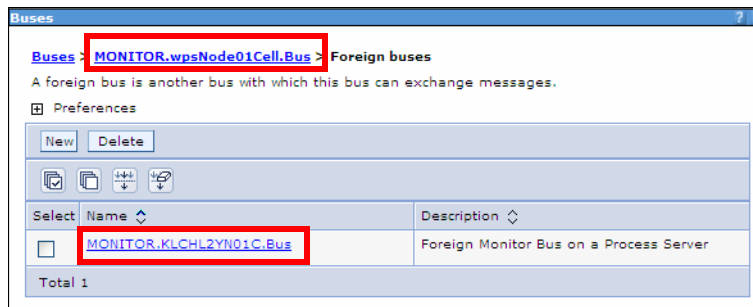

Figure 14-26 MONITOR_SERVER_BUS_NAME
- The foreign bus listed is the MONITOR_SERVER_BUS_NAME (Figure 14-26):
- Select the Process Server bus, MONITOR.wpsNode01Cell.Bus to return to the previous panel (Figure 14-26).
- In the next panel (Figure 14-26), we see the foreign destination created for our monitor model as part of the CEI configuration step in the setup wizard: